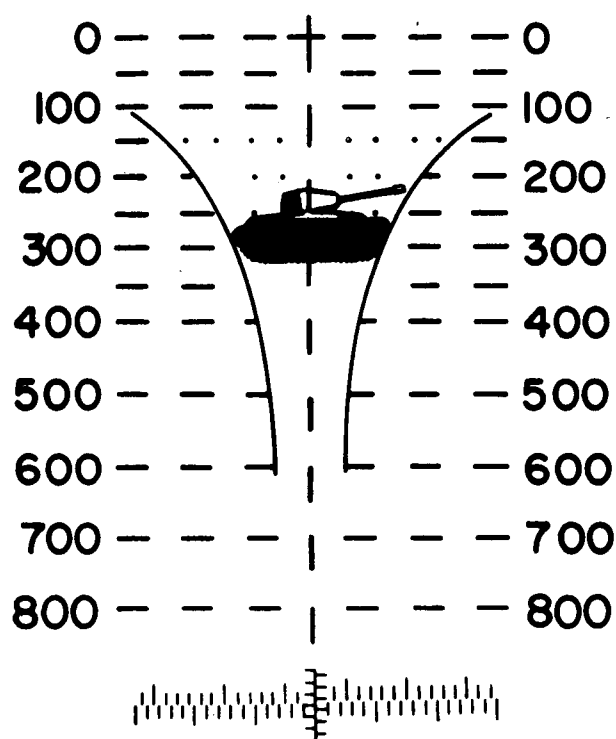
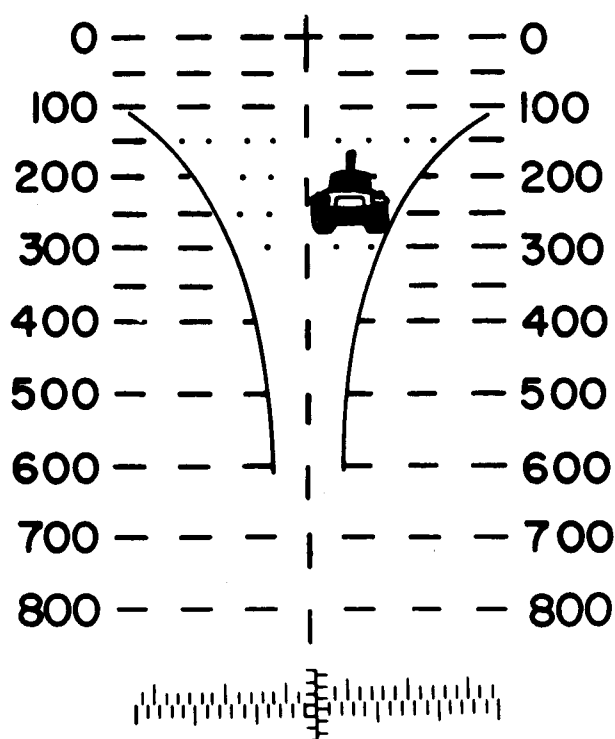

Figure 38. Full stadia picture.
Figure 39. Half stadia picture.
b. Stadia Lines. The stadia lines in the sight reticle are a readily available means of estimating range (fig. 38). These lines are developed from the mil relation formula and are designed to enable the gunner to estimate range to targets having a 10- or 20-foot dimension. Most tanks are approximately 10 feet wide and 20 feet long. To
estimate range, the gunner adjusts the lay of the rifle until the target exactly fits between the stadia lines. The point on the vertical (range) line of the reticle, that corresponds to the center of mass of the target, indicates the range. The target in figure 38 is at a range of 275 meters. On targets showing more of the flank than the front, a full stadia picture is used. If more of the front than the flank is shown, a half stadia picture is necessary (fig. 39). It is important to remember that a deflection adjustment must be made from a half stadia picture to obtain the correct sight picture for target engagement.